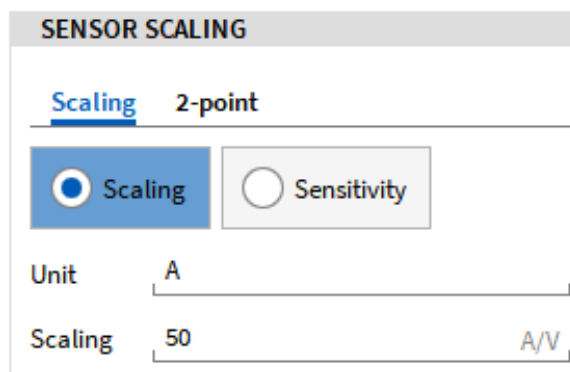

Fig. 7.50: Entering the shunt resistance as scaling factor
- Change the Unit to A (Ampere) and enter the resistance of the shunt resistor as Scaling factor, i.e. 50 Ω (see Fig. 7.50).